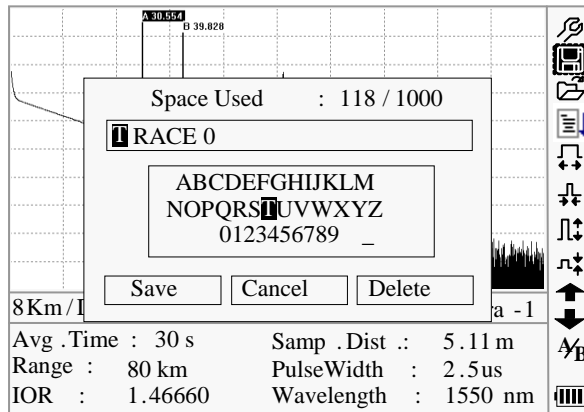

Figure 4-5. Save Trace
- Under GUI of Figure 4-4., use [▲] and [▼] to highlight , and then press [Enter] to enter, as shown in Figure 4-5.